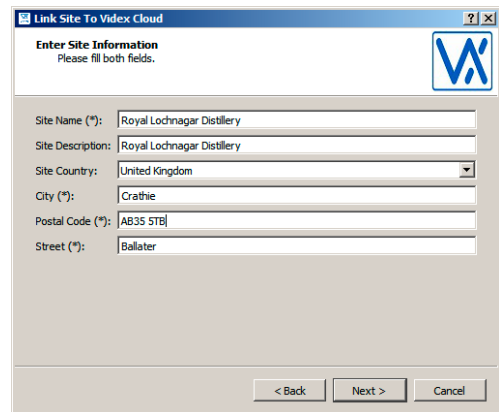

Fig. 35 Enter Site Information
- The software requests formation about the site, fill in the proposed fields (Fig. 35) then click the "next" button.